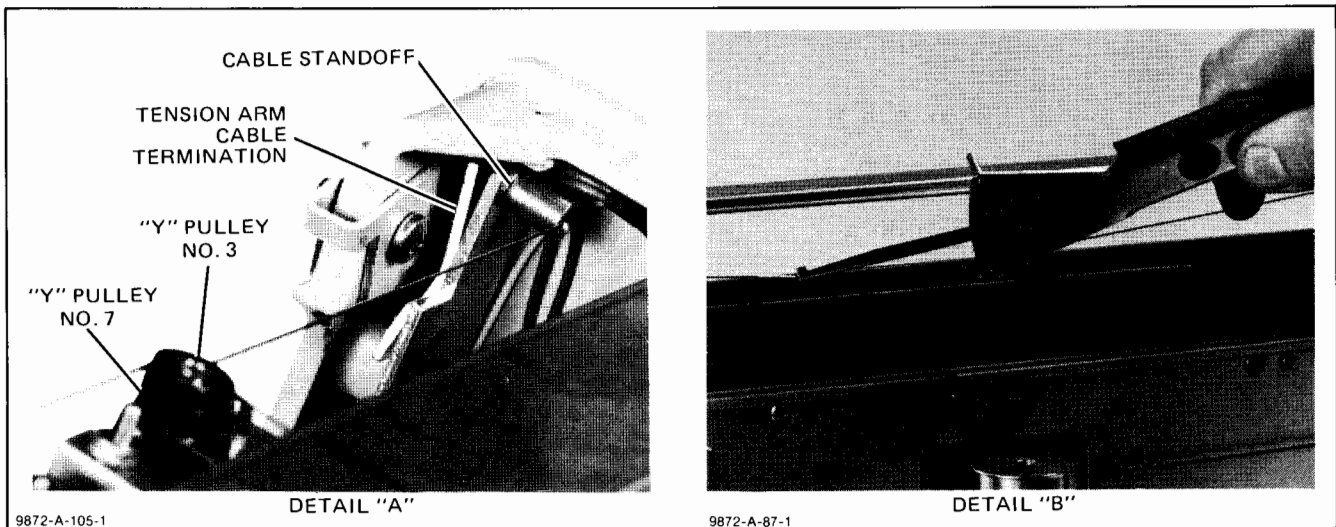

Figure 6-22. Y Cable Termination at Rocker Tension Arm
- n. Pull the loose end of the cable to achieve approximately 325 grams of tension. See Figure 6-22.